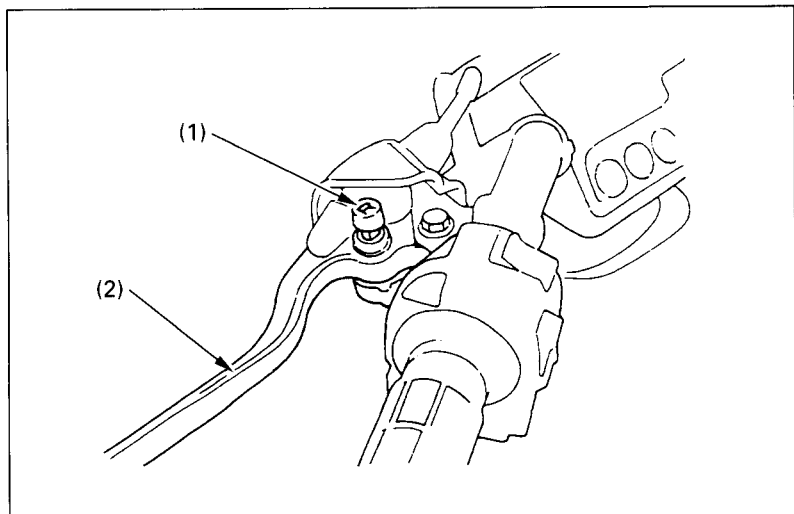

Fig. 2-20 (1) Reverse selector knob (2) Rear brake lever
The reverse selector knob (Fig. 2-20) (1) is on the rear brake lever.